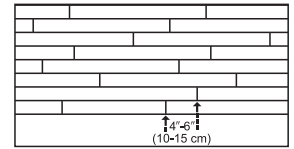

Figure 4 Preferred Alignment
- Be attentive to staggering the ends of the boards at least 4”-6” (10-15 cm) when possible, in adjacent rows (Figure 4). This will help ensure a more favorable overall appearance of the floor.
- End-joints of adjacent rows should be staggered a minimum of 4”-6” (10-15 cm) when possible, to ensure a more favorable overall appearance (Figure 4).
- Check for a tight fit between all edges and ends of each plank. End-joints of adjacent rows should be staggered 4"-6" (10-15 cm) when possible, to ensure a more favorable overall appearance (Figure 4).